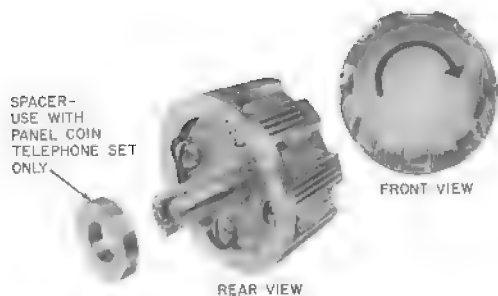

Fig. 31—840360184 Knob and Shaft Assembly
2.42 The 840360184 knob and shaft assembly (Fig. 31) is designed as a replacement for the lever-type coin release handle and shaft assembly on single slot coin telephone sets in areas where a high rate of vandalism has resulted in serious damage to internal linkage and other chute actuating components.